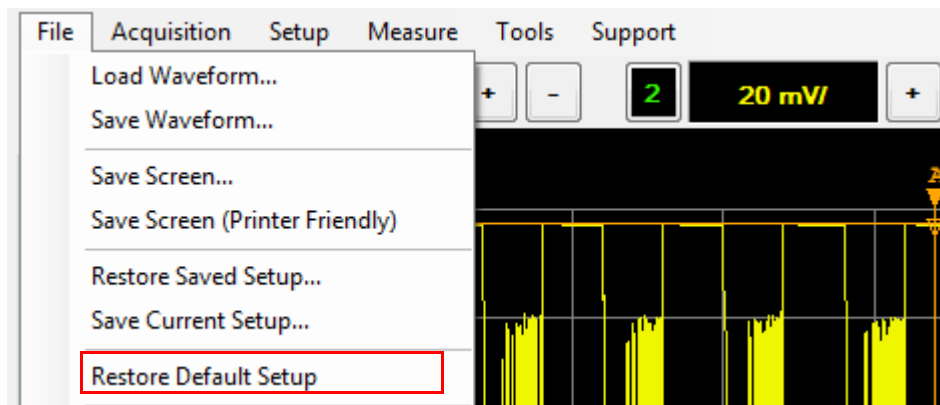

Figure 2-157 Restore Default Setup selection in the File menu
- 1 Select **File > Restore Default Setup** on the toolbar to restore the 8990B to its factory default settings as shown in Figure 2-157.